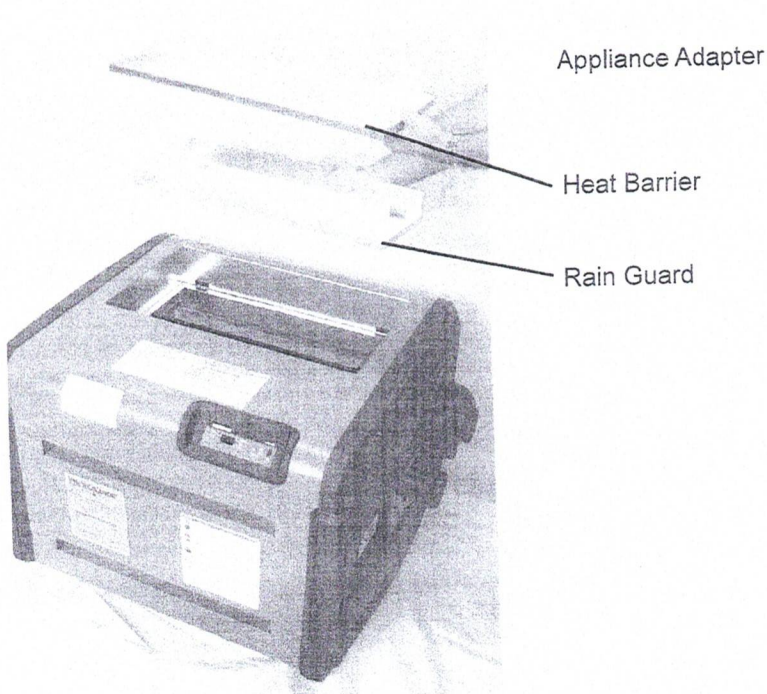

FIGURE 4
- b) Remove the four (4) screws that attach each plastic upper End Cap to the heater. Remove both End Caps.
- c) Remove the four (4) screws that attach the Rear Access Panel to the Heater. Remove Rear Access Panel.
- d) Remove the screws that fasten the Top/Rear Panel to the top of the heater. There are three (3) screws on each side of the panel. There are eight (8) screws on the top of a 150 or 200 size heater, and ten (10) screws on the top of all other size heaters. Remove the Top/Rear Panel and discard.
- e) Install the Top/Rear Panel supplied with the Vent Kit using the six (6) side screws only (three (3) on each side). Do not use the screws for the top of the unit at this stage, they will be used to install the flue cover in step 7 below.
4. Remove the screws that fasten the heat barrier to the heater. Remove the heat barrier and discard. See Figure 4.
5. Remove the screws that fasten the rain guard to the heater. Remove the rain guard and discard. See Figure 4.